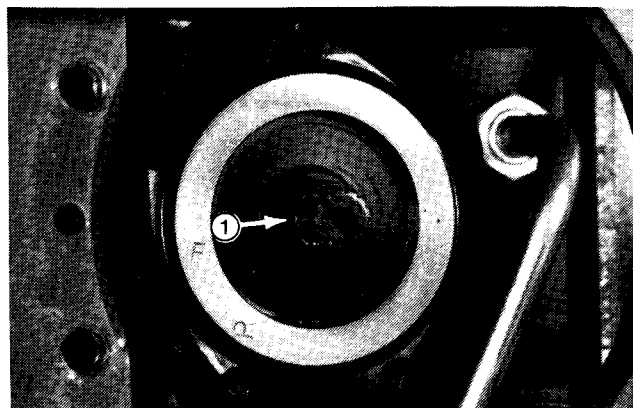

Figure 29
2. Remove cup rings from motor shaft (Fig. 29).